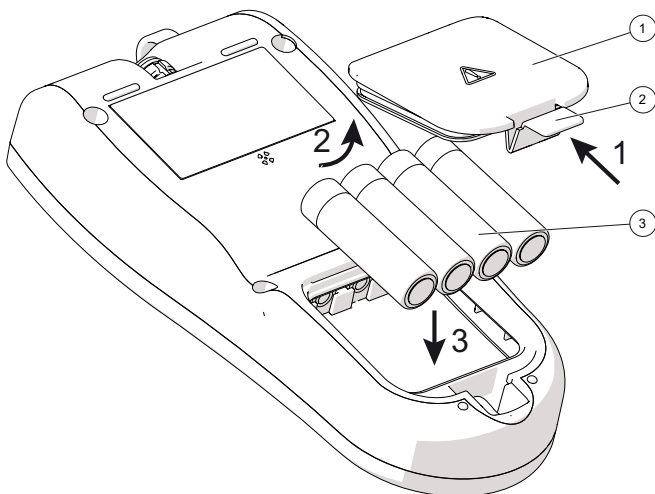

Figure 2 Battery installation
1. Pull the release tab of the battery compartment and remove the cover, as shown in Figure 2 Battery installation